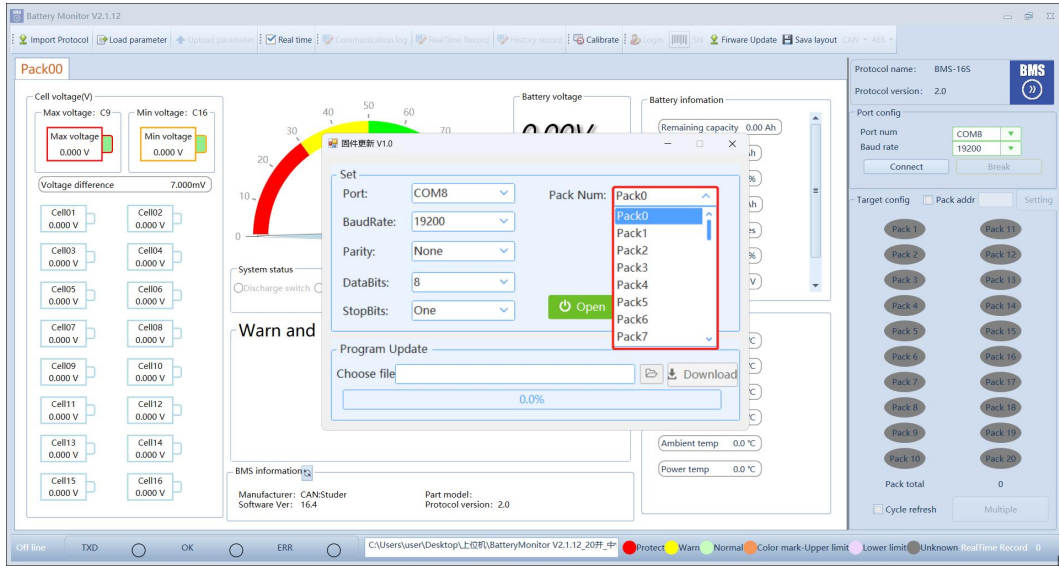

Figure 9-5
**Note:** This upgrade software can also be upgraded according to the corresponding address. If the BMS address matches the address of the package number, you can upgrade, Figure 9-5